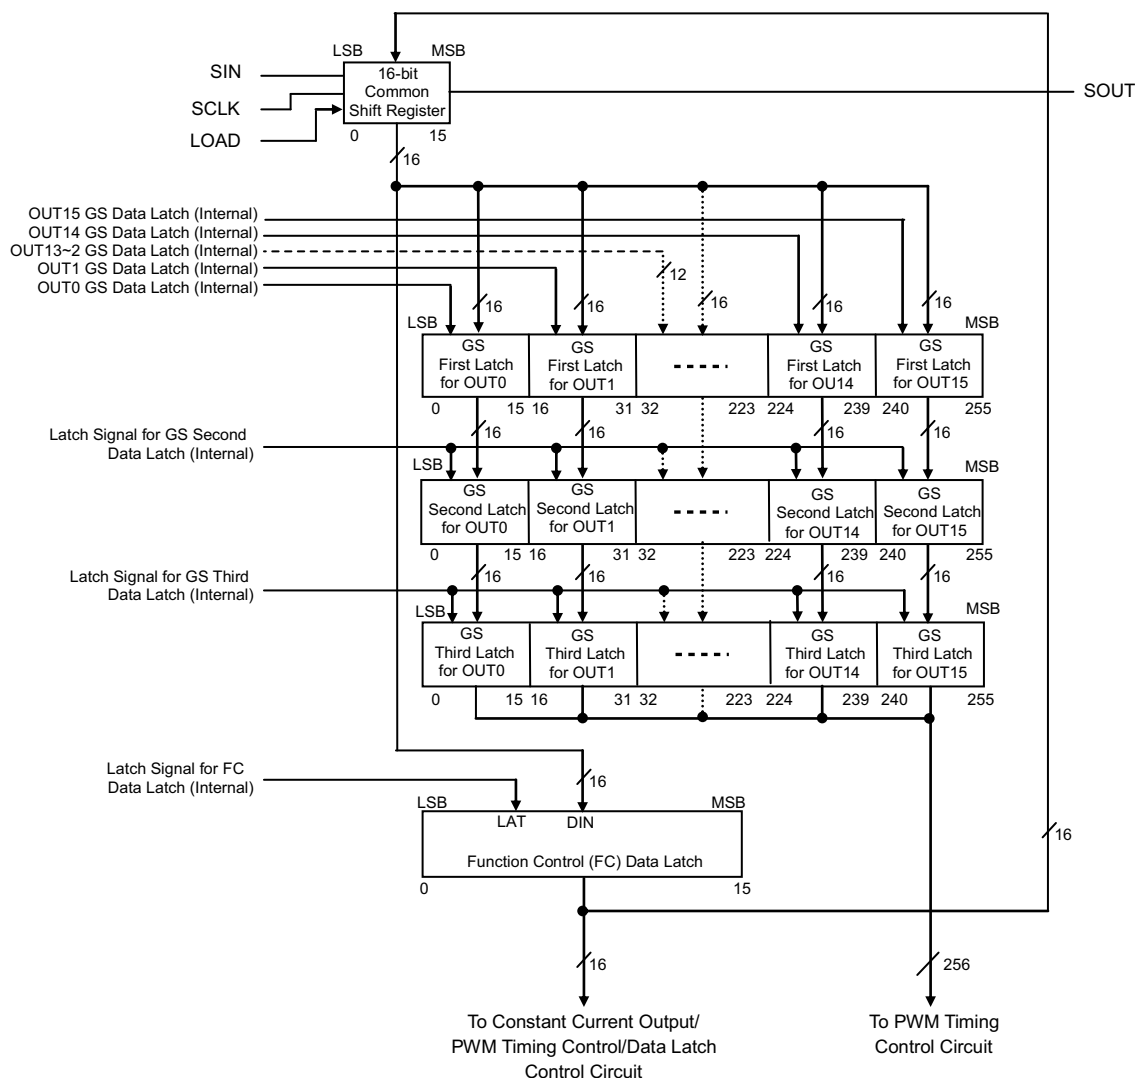

Figure 21. Shift Register and Data Latch Configuration
The TLC59482 has one common shift register, one function control (FC) data latch, and a set of three data latches: the first, second, and third grayscale (GS) data latches. The common shift register and FC data latch are 16 bits long and the GS data latches are 256 bits long. Figure 21 shows the common shift register and the data latches configuration.
The TLC59482 has six commands that can be input with SCLK and LAT signals: WRTGS, LATGS, READFC, WRTFC, TMGRST, and FCWRTE. Refer to Figure 21 to Figure 26 for detailed command input timing diagrams for each command. Each command function is described in Table 6.